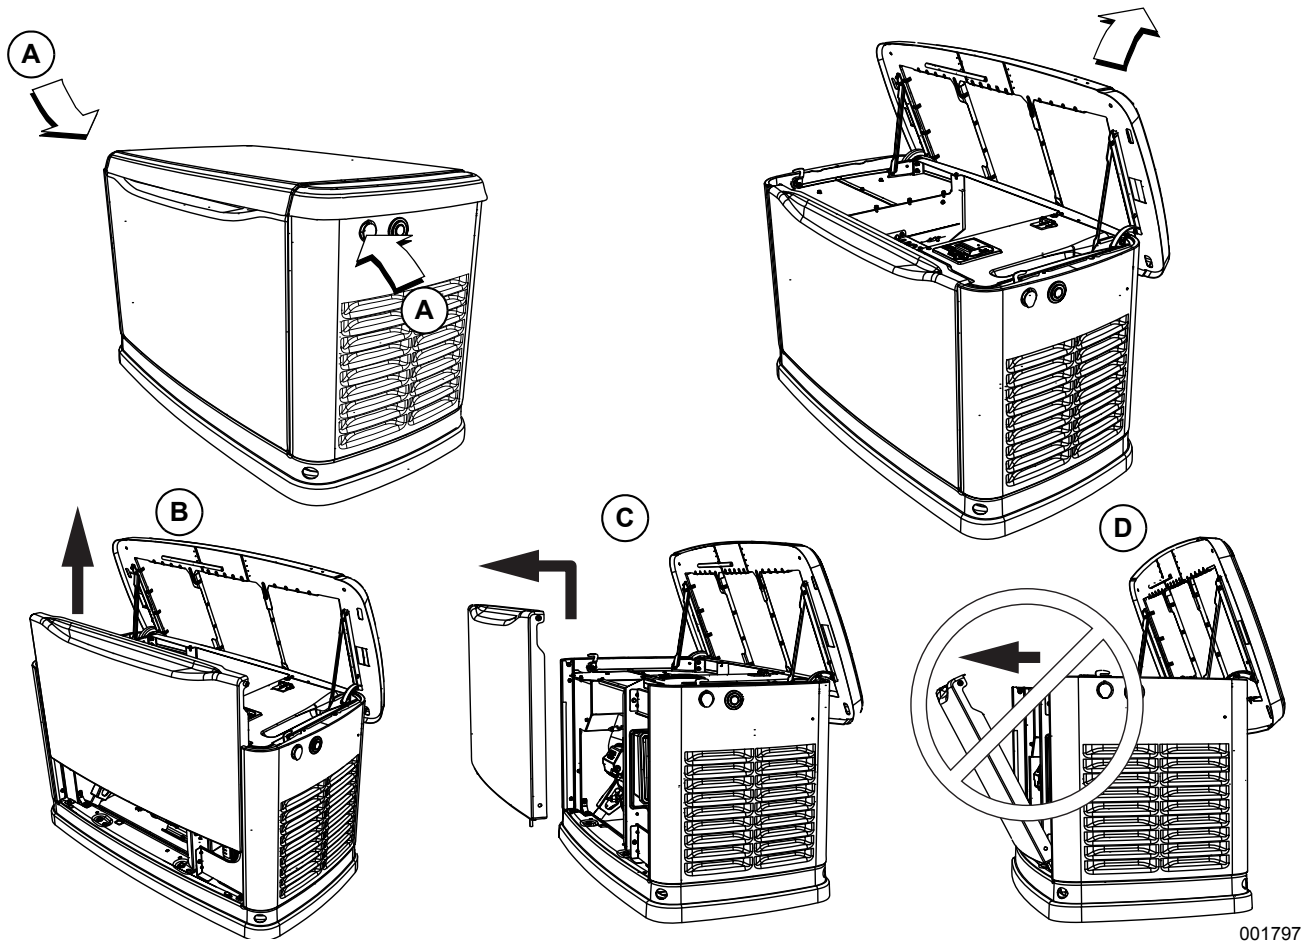

Figure 2-4. Side Lock Location and Front Panel Removal
7. See **Figure 2-4**. Two locks secure the lid; one on each side (A). Press down on the lid above the side lock, and unlock the latch to properly open the lid.